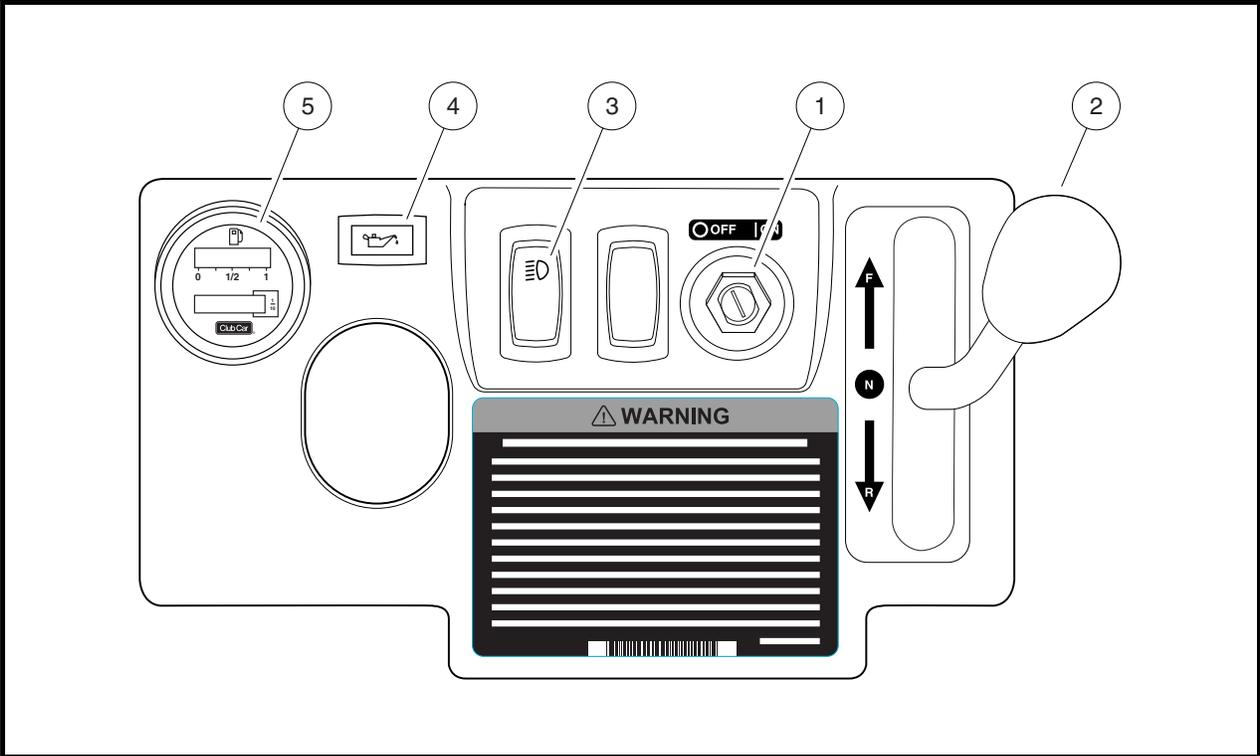
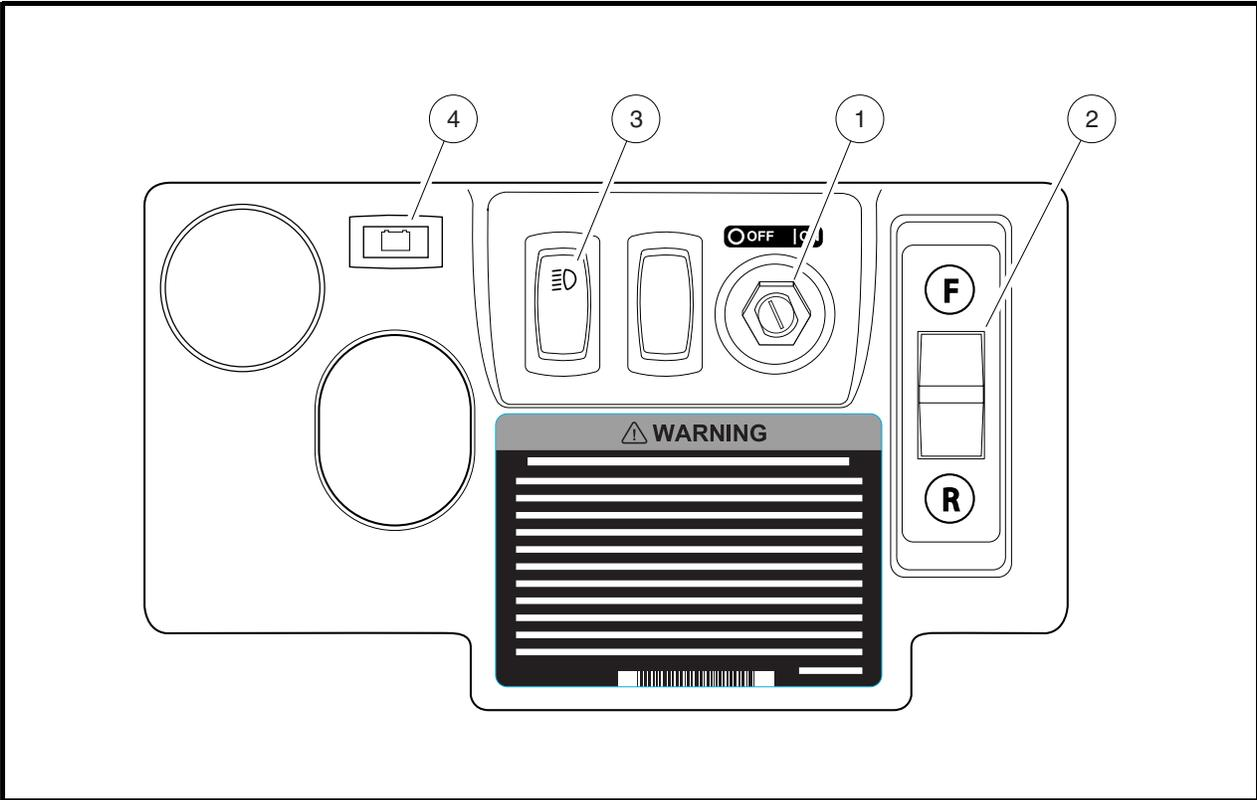

Figure 4 Instrument Panel – Gasoline Vehicles
Figure 5 Instrument Panel – Electric Vehicles
The key switch (1) is mounted on the dash to the right of the steering column **(Figure 4 or Figure 5)**.
The Forward/Reverse handle (2) is located on the right-hand side of the instrument panel (**Figure 4**). The handle has three distinct positions: **F** (FORWARD), **N** (NEUTRAL), and **R** (REVERSE). Push the handle up to operate the vehicle in the forward direction, or pull the handle down to operate the vehicle in reverse.
The Forward/Reverse rocker switch (2) is located on the right-hand side of the instrument panel (**Figure 5**). The **F** (FORWARD) and **R** (REVERSE) positions are clearly marked. Press the FORWARD side of the switch to operate the vehicle in the forward direction, or press the REVERSE side of the switch to operate the vehicle in reverse. When the rocker switch is positioned in NEUTRAL, with neither side down, the vehicle will not operate if the accelerator pedal is pressed. The reverse buzzer will sound as a warning when the Forward/Reverse switch is in the REVERSE position.
The headlight switch (3) is located on the instrument panel to the right of the steering column (**Figure 4** or **Figure 5**). Press the side of the switch with the headlight symbol to turn the headlights on and press the other side to turn the headlights off.
The gasoline vehicle is equipped with a low oil warning light (4), located on the instrument panel just above the steering column (**Figure 4**). If the warning light comes on, oil should be checked and added to the engine as necessary before continuing to use the vehicle. The vehicle should never be driven when the low oil warning light remains on. If the warning light goes on and off, the vehicle may be driven, but oil should be added at the first opportunity. If the oil level is correct and the warning light stays on, have a trained technician check the vehicle.
The gasoline vehicle is equipped with a fuel gauge/hour meter (5), located on the instrument panel (**Figure 4**). The fuel gauge allows the operator to monitor the fuel level in the vehicle. The hour meter should be used by the trained technician to track vehicle usage and determine when periodic service procedures are required. **See Periodic Service Schedule on page 37.**
Electric vehicles feature a dash mounted warning light (4) (above steering column) that, when the vehicle is in operation, indicates low battery voltage or, when the vehicle is being charged, indicates a charging problem (**Figure 5**). The battery warning light is controlled by the onboard computer.